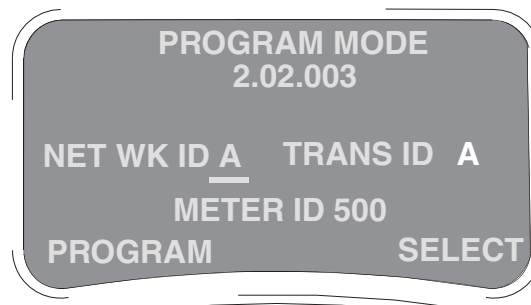
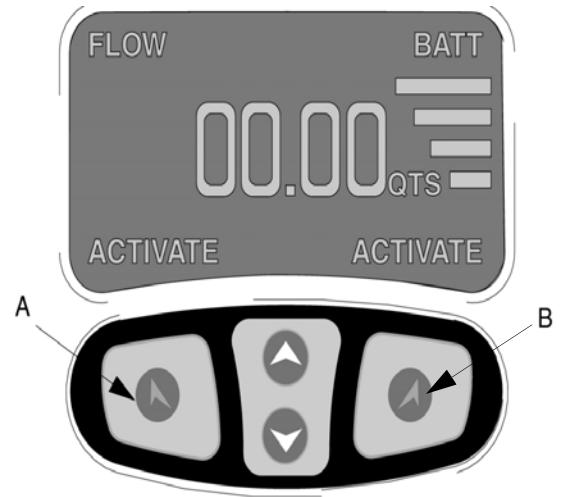

FIG. 1
FIG 2
2. When the battery is first inserted, the display shown in FIG. 2 appears.
3. To program a meter, simultaneously hold down both the left keypad button (A) and right keypad button (B) until both the ACTIVATE words on the display screen change to PROGRAM (appears on the left) and SELECT (appears on the right). Release buttons.
4. The screen indicates a Network and Transceiver ID. See FIG. 1.
- If the ID information is correct, press the left (A) keypad button labeled PROGRAM to complete the meter programming.
- If the ID information is incorrect, use the SELECT button and up/down arrow button to obtain the correct ID settings. Then press the left (A) keypad button labeled PROGRAM to complete the meter programming. See FIG. 2.